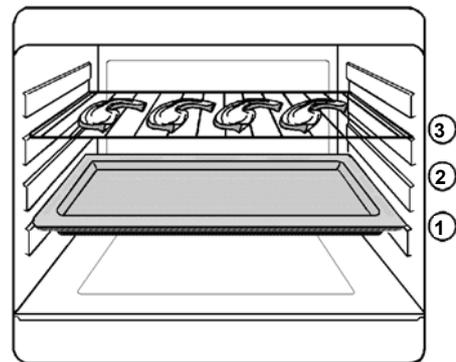

fig. 6
1. Insert the meal on the 3rd level (fig.6).